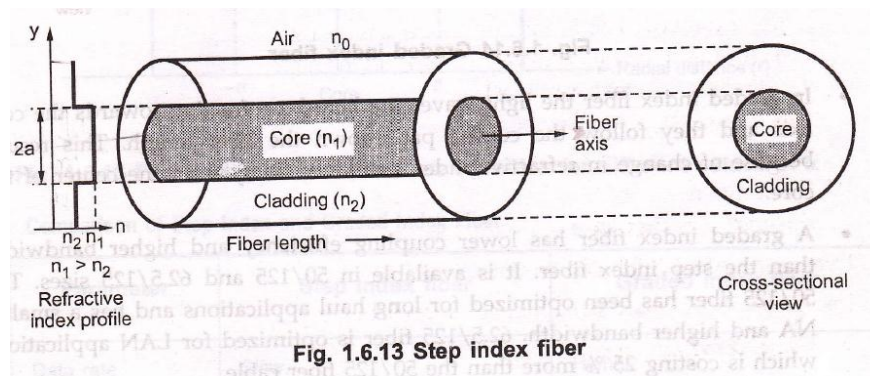

Fig. 1.6.13 Step index fiber
- The step index (SI) fiber is a cylindrical waveguide core with central or inner core has a uniform refractive index of  $n_1$  and the core is surrounded by outer cladding with uniform refractive index of  $n_2$ . The cladding refractive index ( $n_2$ ) is less than the core refractive index ( $n_1$ ). But there is an abrupt change in the refractive index at the core cladding interface. Refractive index profile of step indexed optical fiber is shown in Fig. 1.6.13. The refractive index is plotted on horizontal axis and radial distance from the core is plotted on vertical axis.